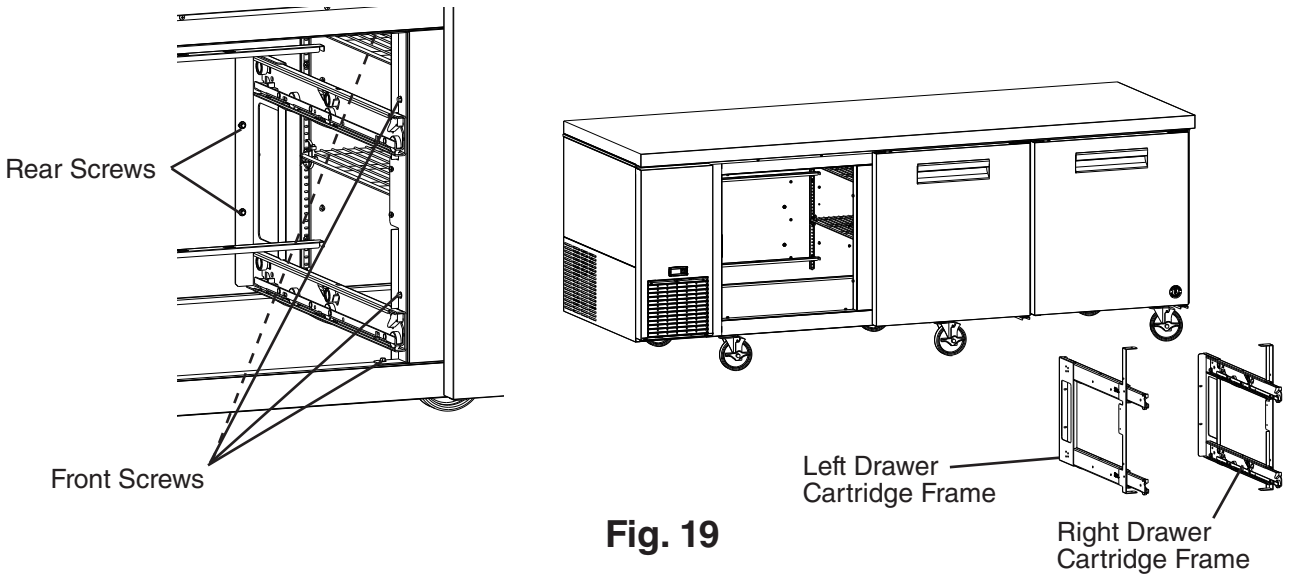

Fig. 19
- 4) Remove the 4 rear screws from the left and right drawer cartridge frames (2 per side). See Fig. 19.